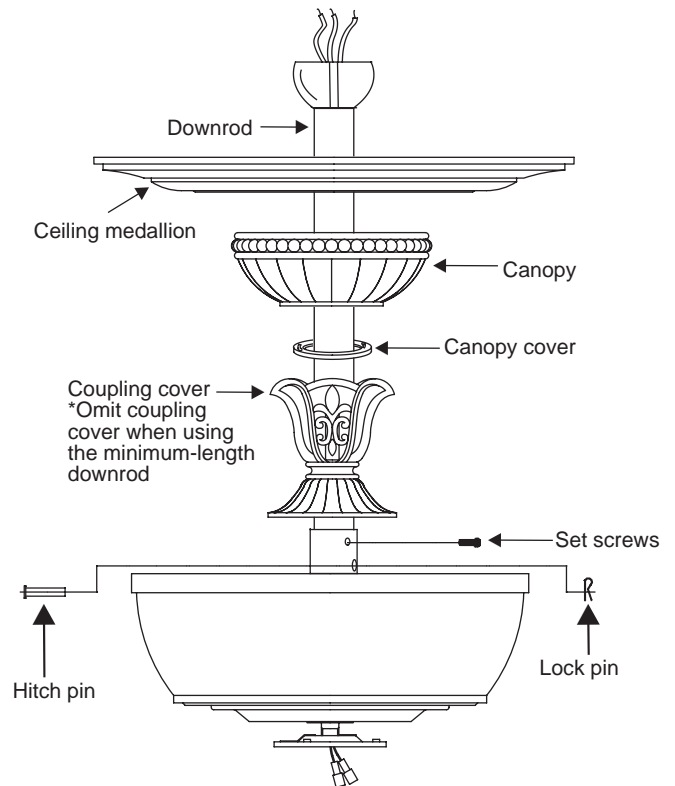

Figure 7
Step 6. Route wires exiting from the top of the fan motor through the coupling cover, canopy cover, canopy, ceiling medallion and then through the ball / downrod. (Fig. 7)
Step 7. Align the holes at the bottom of the downrod with the holes in the collar on top of the motor housing (Fig.7). Carefully insert the hitch pin through the holes in the collar and downrod. Be careful not to jam the pin against the wiring inside the downrod. Insert the locking pin through the hole near the end of the hitch pin until it snaps into its locked position, as noted in the circle inset of Fig. 7.
Step 8. Tighten two set screws on top of the fan motor firmly. (Fig. 7)